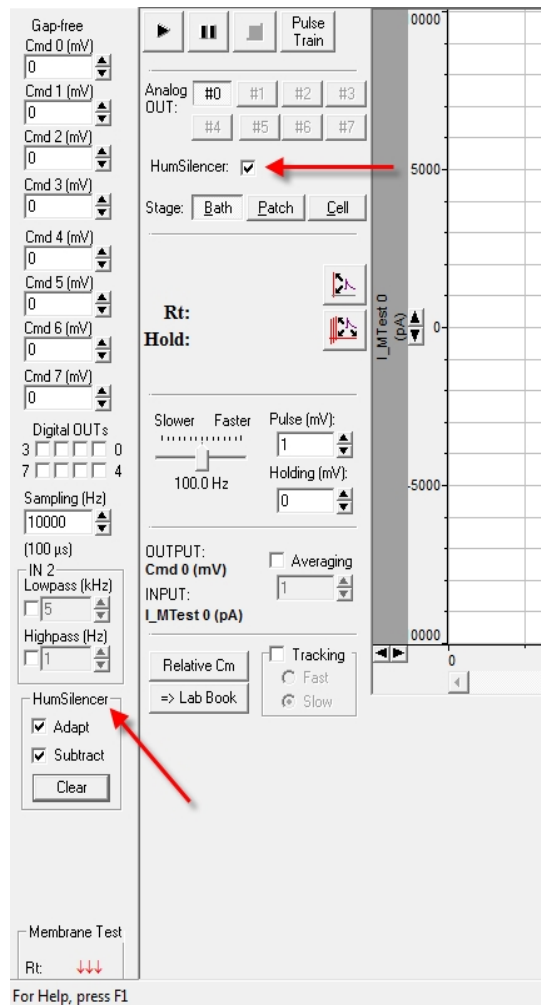

Figure 4-8: HumSilenCER system controls in the Real Time Controls panel and Membrane Test dialog
1. In the Membrane Test dialog, select the **HumSilenCER** checkbox to turn on the HumSilenCER Real Time Controls (Figure 4-8).